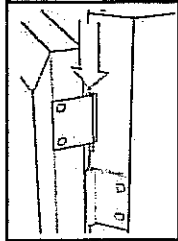

Figure 3
Attach Door Post (M), (N), Doors (O) and (P) by sliding the door lift hinges into the side panels lift hinges (See figure 3).